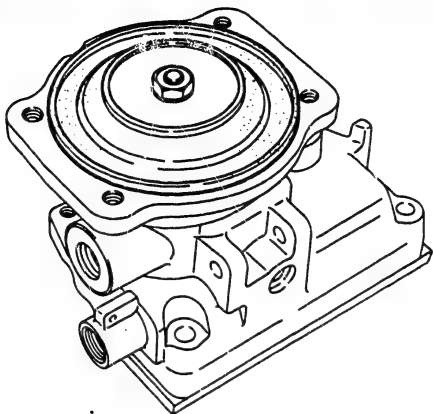

Fig. 127 Installing the aneroid/boost compensator parts
- 1 Install all internal aneroid/boost compensator parts. (Fig. 127)